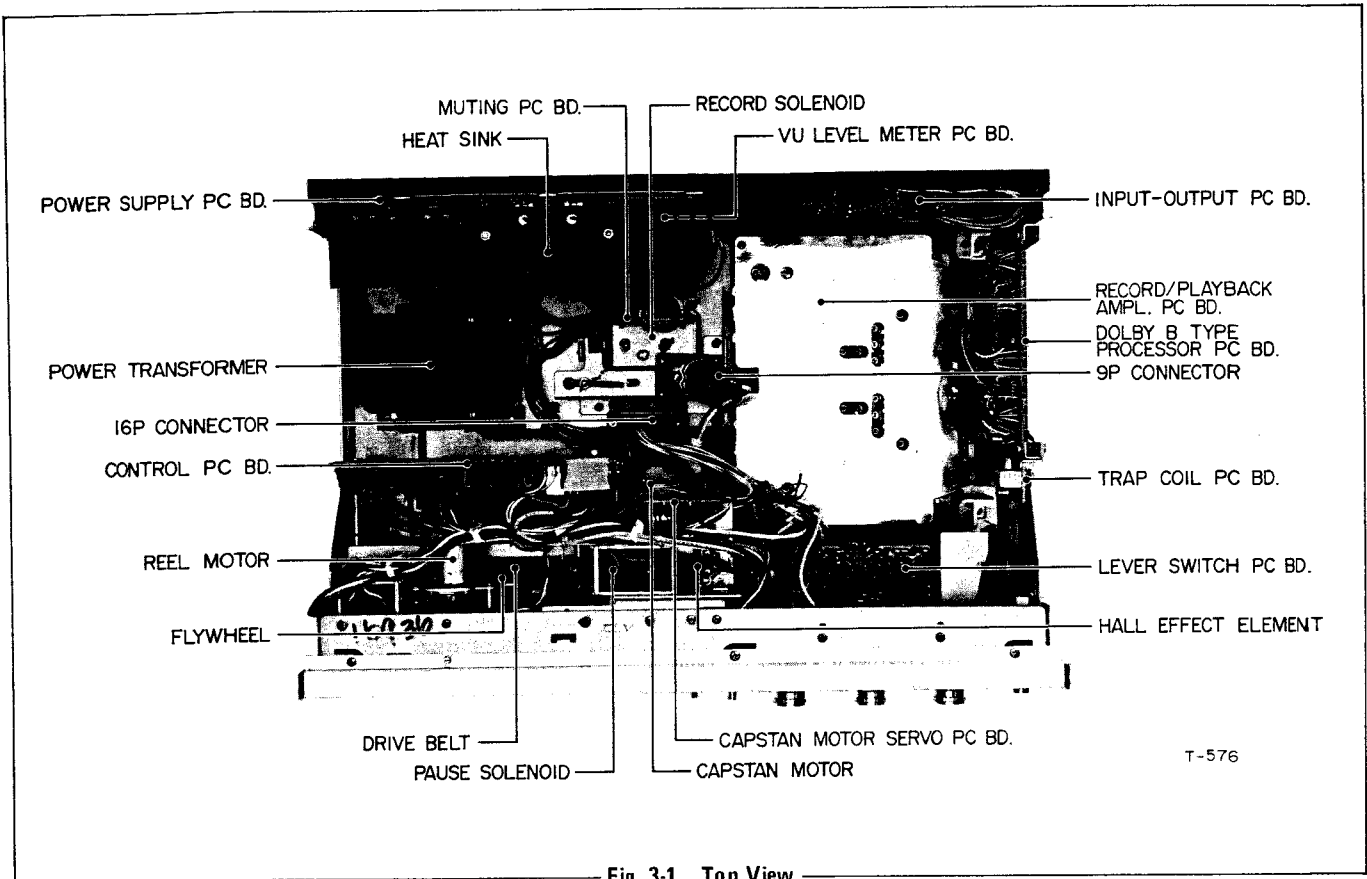

Fig. 3-1 Top View
1. Disconnect the 16P Plug and the 9P plug. See Fig. 3-1 on page 6.
2. Unscrew the screws (B) (H) (C) (F) in that order and loosen (D) to facilitate next step.
3. Tilt the Front Chassis section (E) forward and away from the main chassis (G).
4. Lift the tape transport chassis (A) from the main chassis.